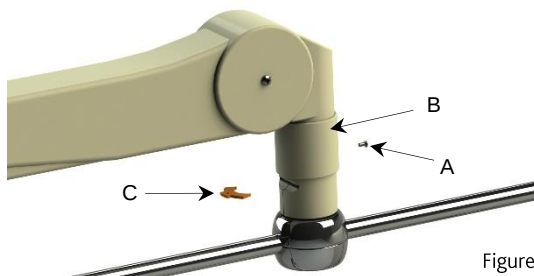
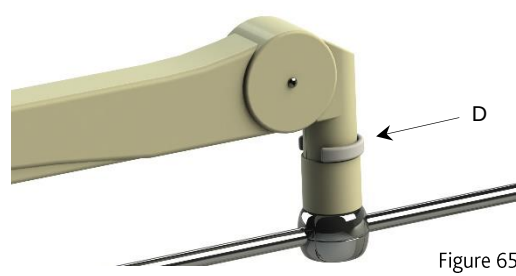

Figure 64
Figure 65
Apply grease to the device pivot and slide it into the spring arm whilst the arm is constrained at the horizontal position. Secure the device (figure 64) by inserting segment (C) through the spring arm slot. Ensure the segment is in the pivot groove and slide collar (B) down (with the collar fixing screw hole uppermost). Fix the collar in place using screw (A) and tighten to 0.5 Nm (do not over tighten and do not apply Loctite®). Re-attach the collar limiting snap ring (D) (figure 65).